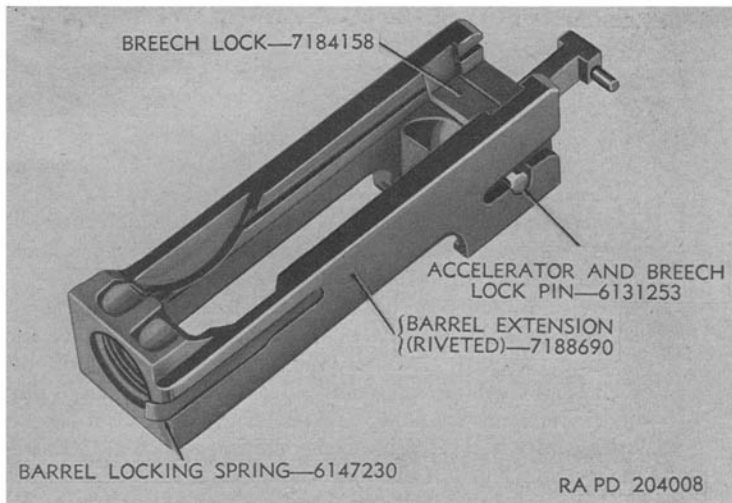

Figure 26. Barrel extension group.
- (4) Lined barrels are inspected visually only as in (2) above. Lined barrels, which are unserviceable, should have their liners salvaged and shipped to Springfield Armory (*b* below).
- (5) Unlined barrels rejected in (3) above will be used for function-firing purposes.
b. Barrel Extension Group (figs. 26 and 27).
- (1) Inspect for burred or worn surface; broken or missing pin spring; worn or burred accelerator and breech lock pin; worn threads; and weak, broken, or loose barrel locking spring.